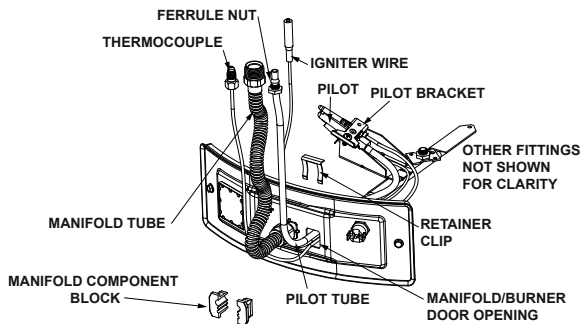

FIGURE 34.
2. Lift the retainer clip straight up from the back of the manifold component block (using a flat-blade screwdriver), then remove the manifold component block from the manifold door (Figure 34.)
- Position the new thermocouple through the bottom opening of the manifold component block (Figure 34). Be sure igniter wire is positioned through the small opening of the manifold component block.
- Lift the retainer clip straight up from the back of the manifold component block (using a flat-blade screwdriver), then remove the manifold component block from the manifold door (Figure 34.)
- Route the new pilot tube, thermocouple, and igniter wire through the manifold/burner door opening. (Figure 34)
- Carefully bend the new pilot tube and thermocouple to match the bend of the manifold tube. **NOTE:** When bending, **DO NOT** crimp or crease the pilot tube or thermocouple. (Figure 34)